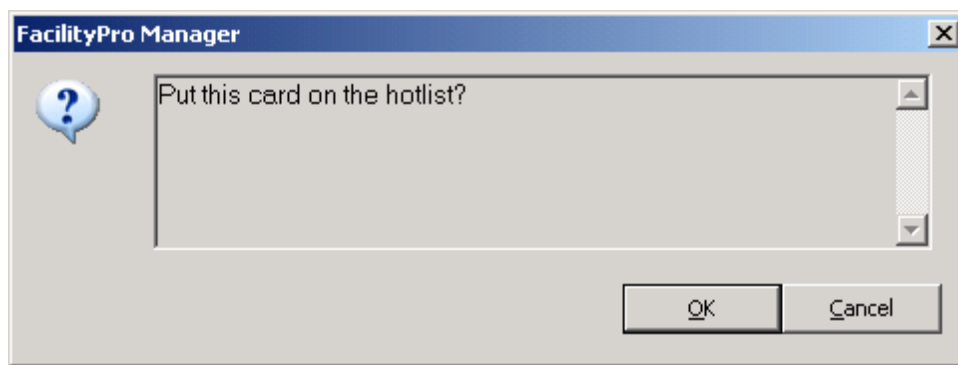

Figure 3-30 The hotlist dialog screen
4. Click **Hotlist**. You will see a dialog screen (Figure 3-30).